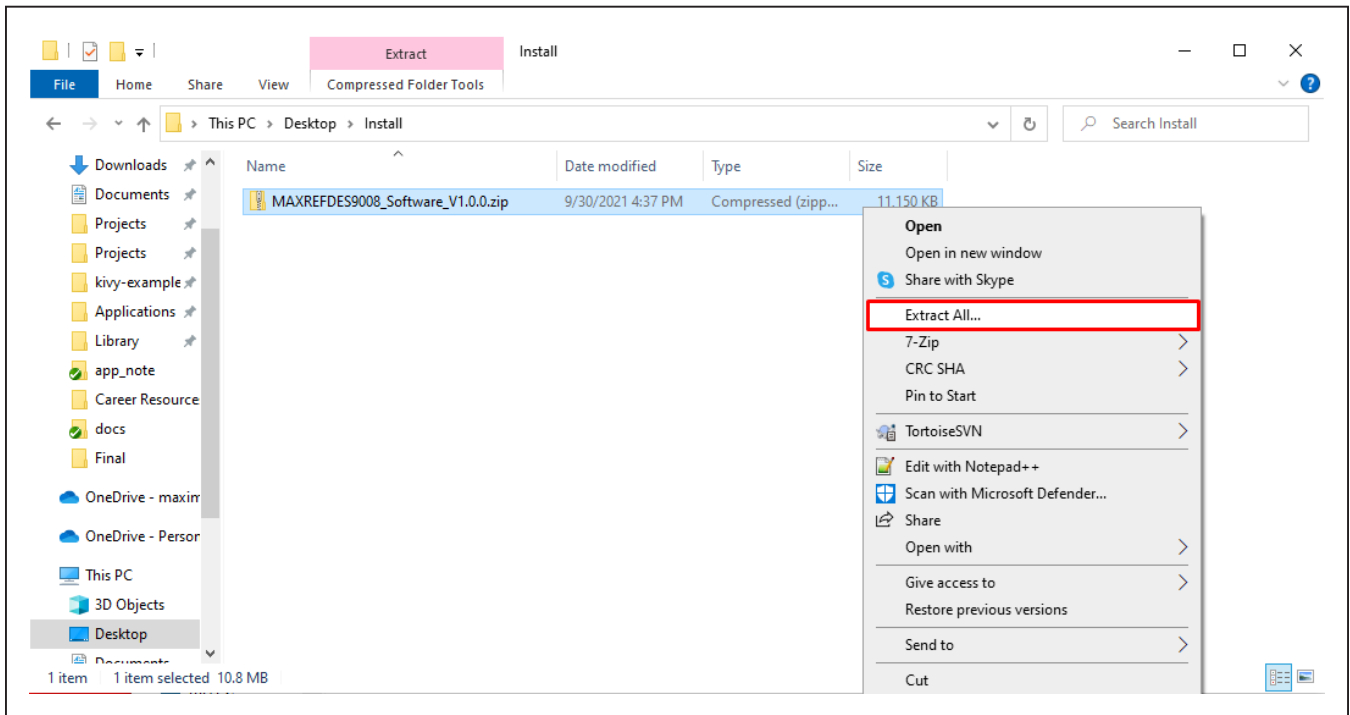

Figure 6. C-Demo extraction.
6) Download and extract the **MAXREFDES9008_Software_V1.0.0** file, in any location as shown in Figure 6.